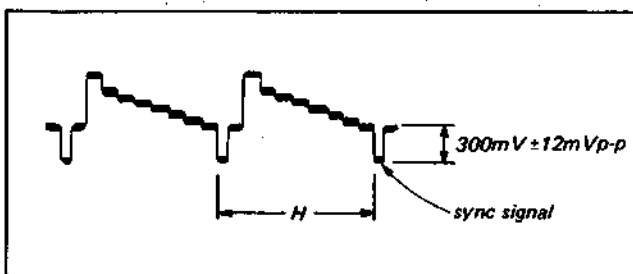

Fig. 4-4-11. Level adjustment of sync signal
- (3) Connect the oscilloscope to pin 24 of IC1.
- (4) Adjust RV7 for the sync signal level of 300mV \pm 12mVp-p. (See Fig. 4-4-11.)